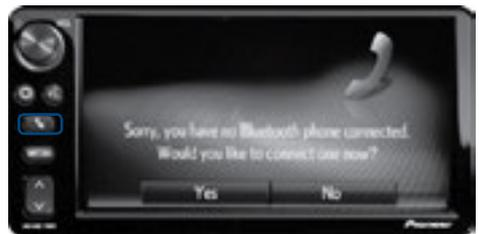

Figure 3
2. Press the **“Phone”** button to display the **“Phone”** screen. Touch **“Yes”** to register a phone. (Non-Navigation units – skip to step 4) [See Figure 3]